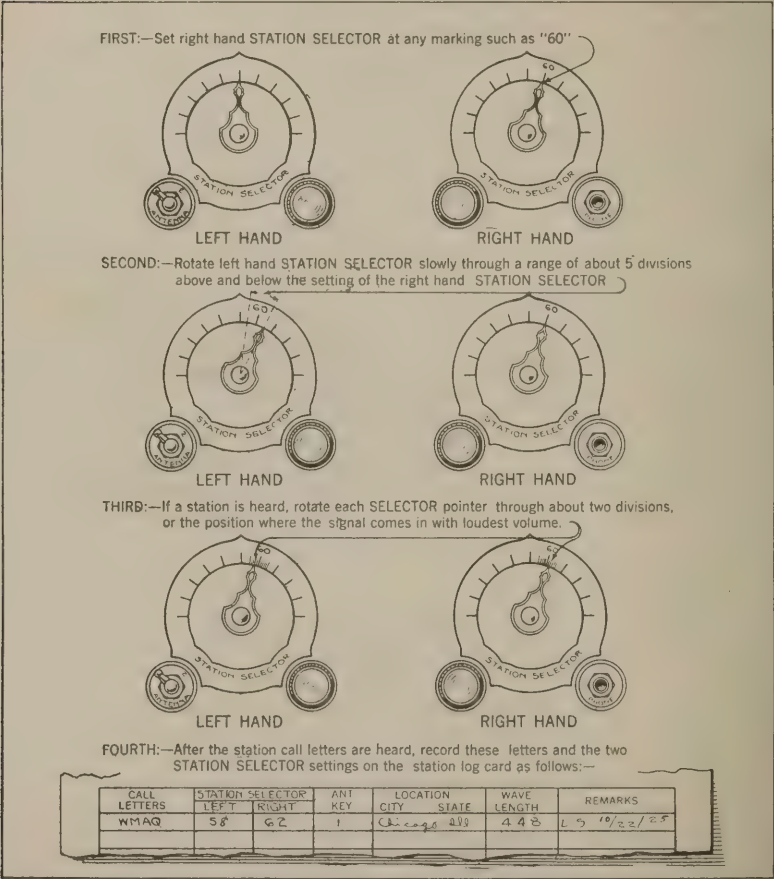

Fig. 21—Selecting Stations when the Wave Lengths are not known
- (b) “Selecting Stations by Hunting or Fishing Method” (Fig. 21).
Fig. 21 shows how this hunting method of station selecting can be done, without requiring that the start be made at the "0" end of the scales.